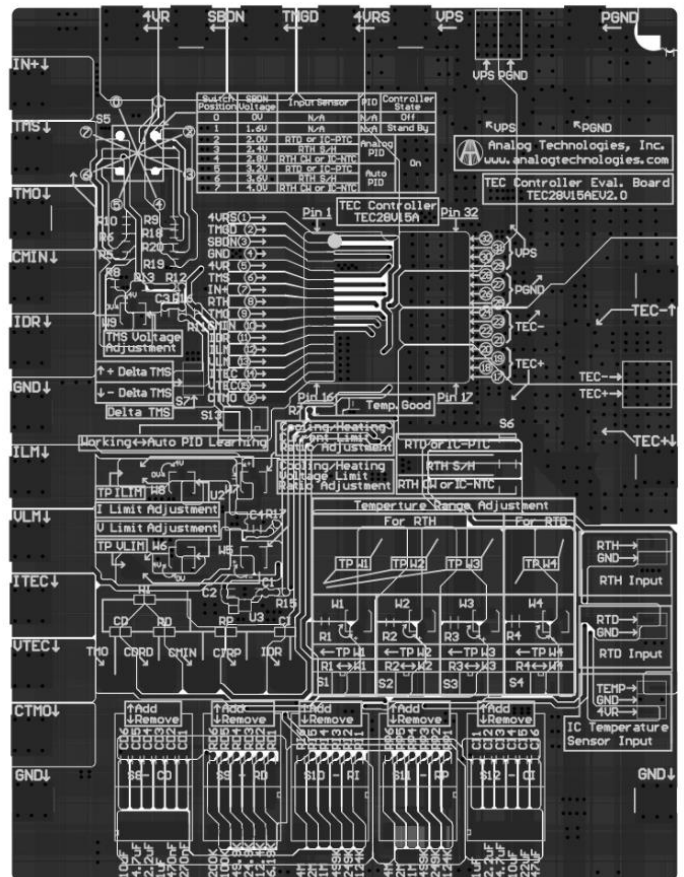
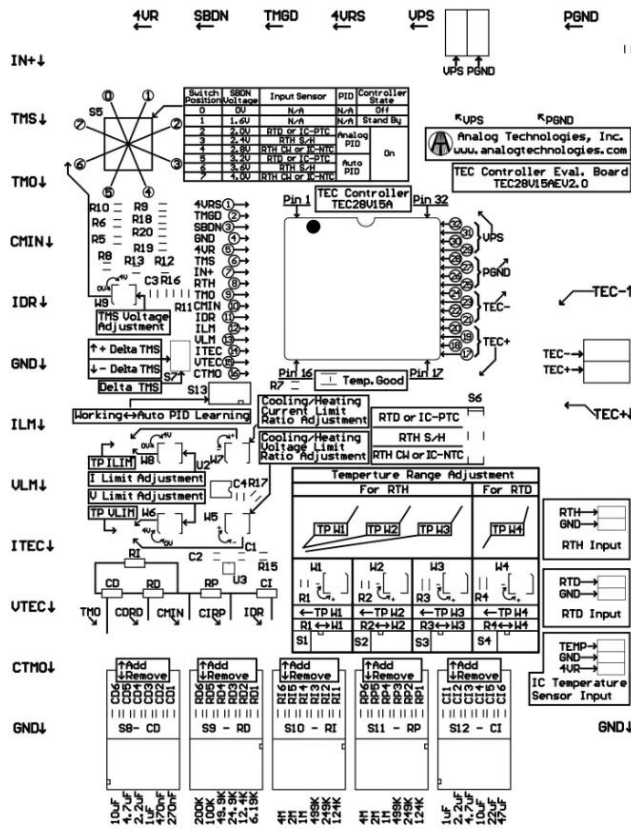

Figure 2. Top Silkscreen Layer with Other Top Layers
Figure 6. Top Silkscreen
The silkscreen layer of the evaluation board is shown in Figure 2 with other top layers, including top silkscreen, top copper, top solder mask, and multilayer (vias). Figure 6 only shows the image of top silkscreen layer. There is no component in the bottom side of the board, so that there is no bottom silkscreen layer image.
There are 3 terminal blocks also located on the left, top and the right side of the board, their connectors are for the same nodes of the solder pads. See the silkscreen image in Figure 6.
- 3. After tuning, the values of the capacitors for C_D and C_1 can be read off the capacitor selection switches. The values of the resistors, R_I , R_d and R_P , can be measured by an Ohm-meter by connecting to the resistor pins. As seen in the photo of Figure 6, R_I can be read off between TMS and CMIN test points; R_D can be read off between CMIN and CDRD test